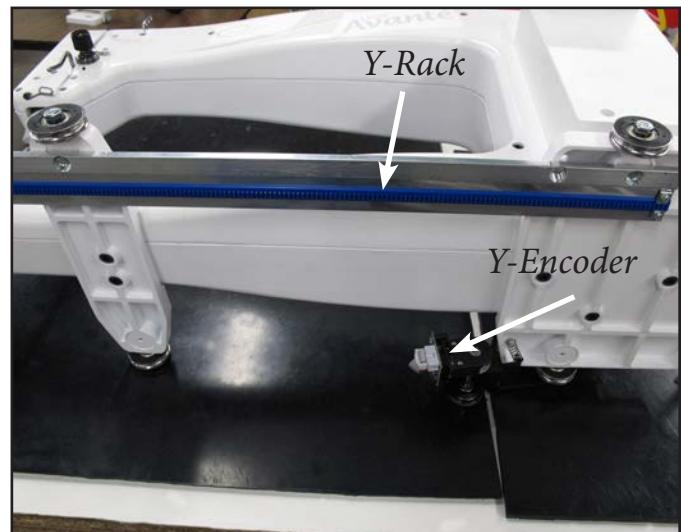

Figure 3.8
2. Attach the Y-Rack as shown in **Figure 3.8**. The blue flexirack should be toward the middle of the machine while the bolt holes should be toward the outside. Use the screws that were removed from the front and rear base plates (*or use the two smallest screws in the Base Plate Repair Kit (Page 3.3 D) if your machine had no screws here*) to mount the Y-Rack to the bottom of the front and rear base plates. Be careful not to over-tighten the screws as the base plate holes will strip easily. In case of accidentally cross-threading or stripping one of the base plate holes, an emergency repair kit (*Page 3.3 D*) has been provided.